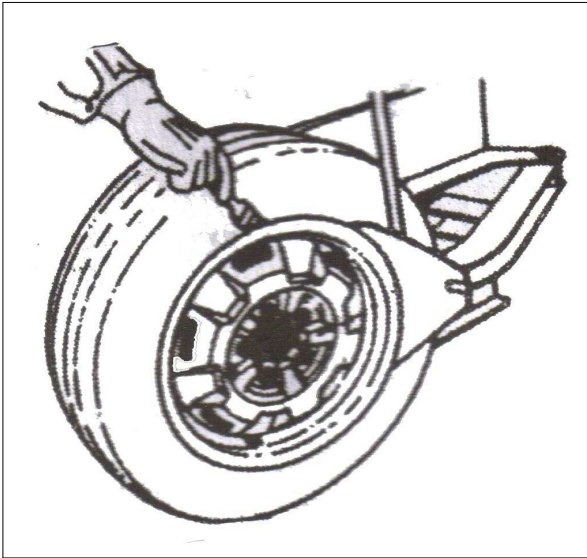

Fig. 18
- Place the tyre between the bead breaker blade and rubber pad, and place the blade on the bead 2 cm from the rim, step on the pedal (Fig. 2-10) to separate the bead from the rim. (Fig. 18) The wenthole on the tyre should not near to the bead breaker blade during the operation.